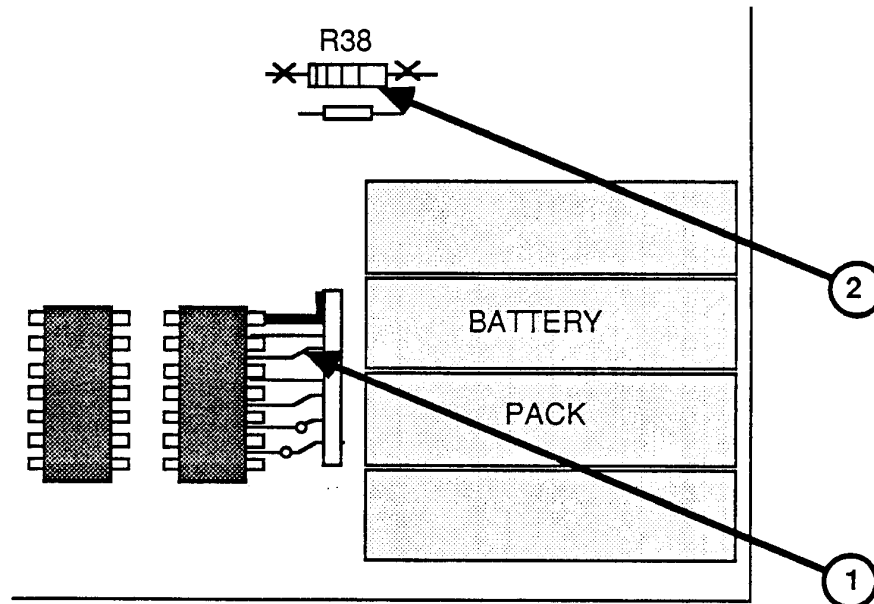

FIGURE 1
2. Carefully cut the trace shown in Figure 1, #1.
3. Clip both leads of the resistor R38 (Figure 1, #2) to completely remove it from the board.